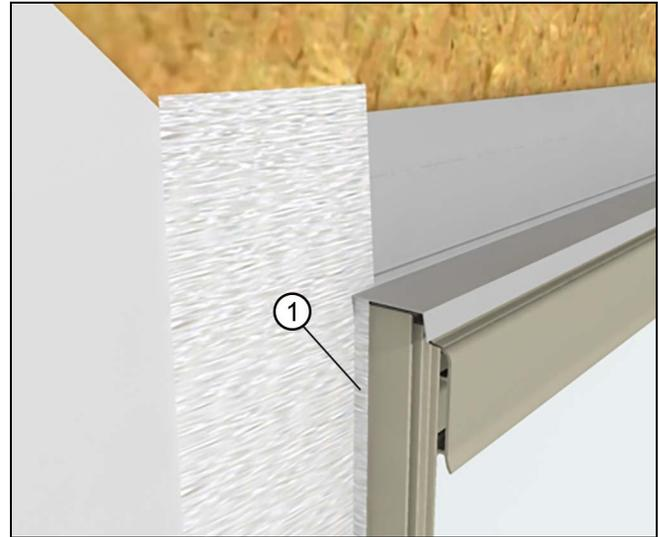

Figure 22
2. Lap vertical strips of flashing onto the unit or casing and out over the weather resistive barrier. Make small cuts at the head jamb to allow the flashing to fold back onto the exterior. See Figure 22.